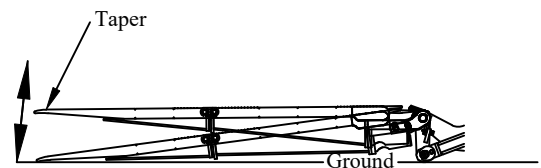

Figure 5: Step 8.
- Step 8. To lower the platform to the ground push down on the control toggle. The platform will lower and the taper will tilt until the platform taper touches the ground (Figure 5).